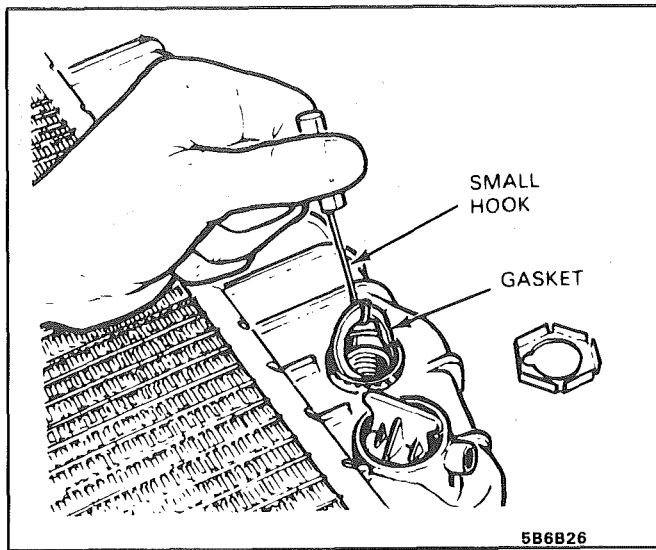

Fig. 26 Removing Oil Cooler Gasket
3. Press the oil cooler into the hole and remove the gasket using a small hook (Fig. 26).